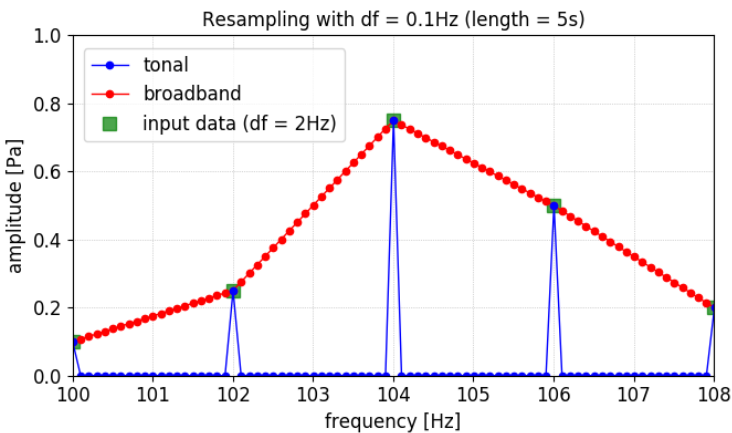

Figure 18.11: Example of spectrum types after resampling of an input frequency data with 2Hz resolution. Interpolation is applied on Broadband spectrum type.
- Tonal: This option does not apply any interpolation. At the resampling procedure, the pressure values (amplitude and phase) are set to approximations of the frequencies provided in the input file, based on the resampling resolution. For the remaining frequencies (within the audio range), zero amplitude and phase values are set (See Figure 18.11). In order to avoid audio clicks in the output, a fade-in/fade-out with within a time interval of 10% the output audio Length is applied.
- Broadband: This option applies an interpolation between input data points during the resampling procedure. The linearly interpolated values are pressure amplitude and phase (See Figure 18.11). Through the `convert_to_audio` API, there is the option to apply a random phase in the broadband spectrum type, same as the `--random_phase` option shown in Section 58.13 of Volume 1. In order to keep the impact sound feature generated by Broadband type, the fade-in/fade-out (same as the Tonal type) is only applied when using random phase.